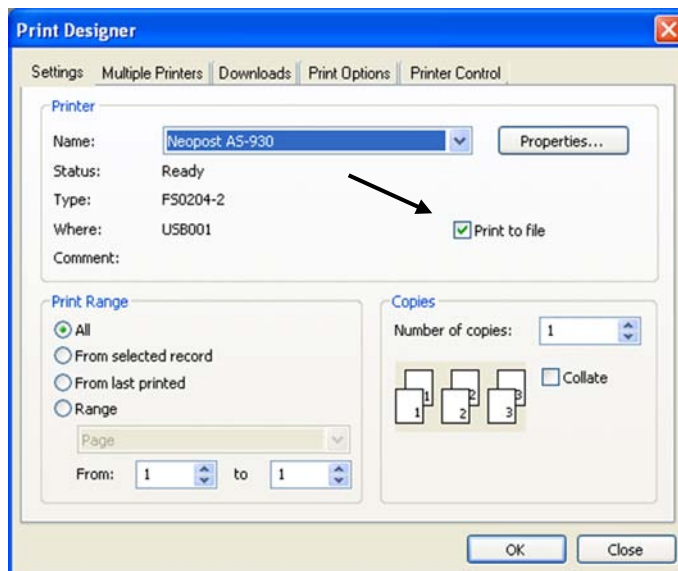

Figure 62: Print dialog window
- Activate the "Print to file" checkbox as shown in Figure 62.